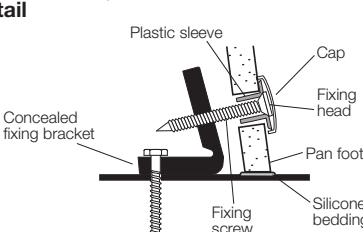

Fig. 7
- 7- Connect pan to connector and locate plastic fixing sleeve and brass bush into holes in the pan. Fit screw into the bracket and tighten to bed pan to floor while ensuring level, as detailed in Fig. 7.
IMPORTANT - DO NOT OVER TIGHTEN, AS THIS MAY CRACK THE PAN FOOT. Snap on plastic cap, as detailed in Fig. 7.